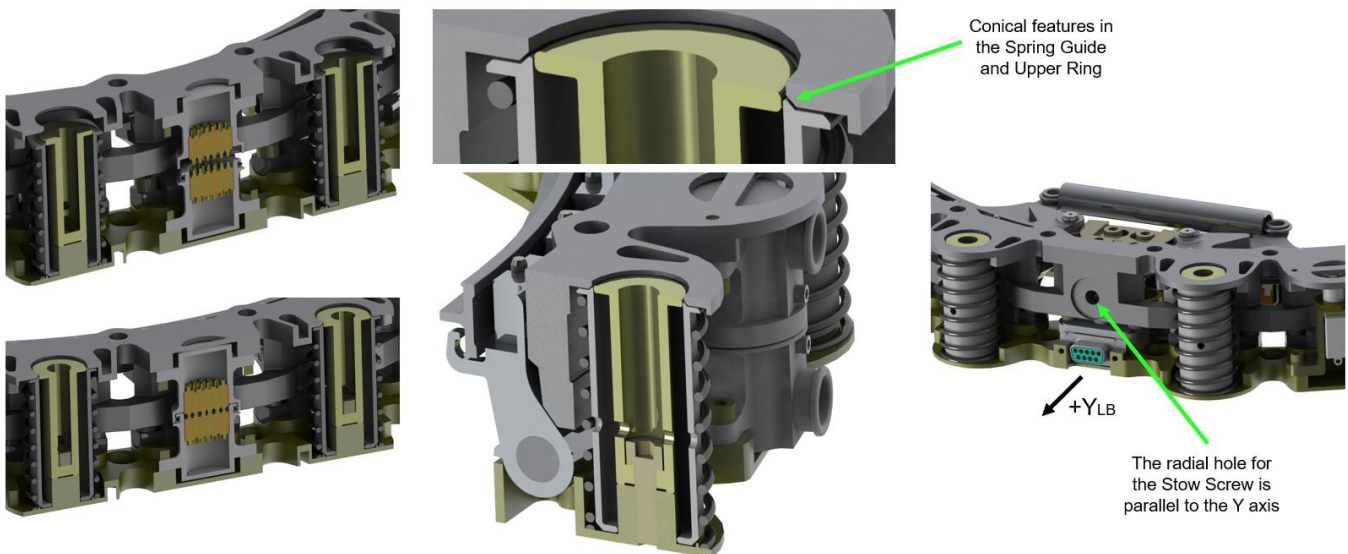

Figure 10-7: Aligning the Upper and Lower Ring
10.1.9	Align and join the Upper and Lower Rings. See Figure 10-7. Apply compression force within the range calculated in step 10.1.6. Note: If this is the first time mating the Upper and Lower Rings with Connectors installed, ensure Connectors are loose prior to applying compression force. See Figure 10-9.